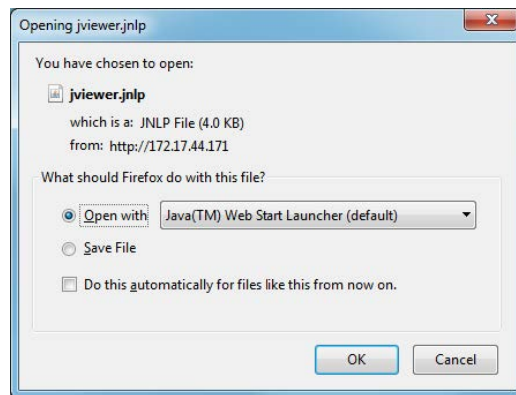

Figure 3.9 Opening JAVA
5. Select **Launch JViewer. Open with: Java™ Web Start Launcher** (default) is automatically selected as shown Figure 3.9 on page 41. Click **OK** to proceed.